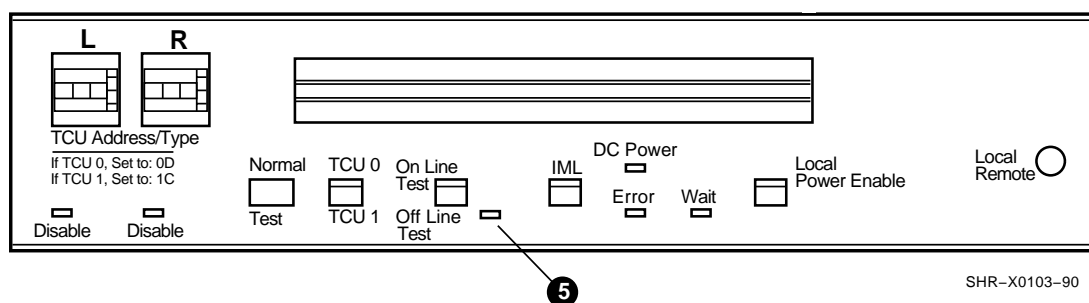

Figure 2-8 TCU Off Line Light
The green TCU Off Line light ⑤ comes on when the On Line Test/Off Line Test switch is set to Off Line Test, all subsystem processing has completed, and subsystem status has been to the controlling computer (Figure 2-8).